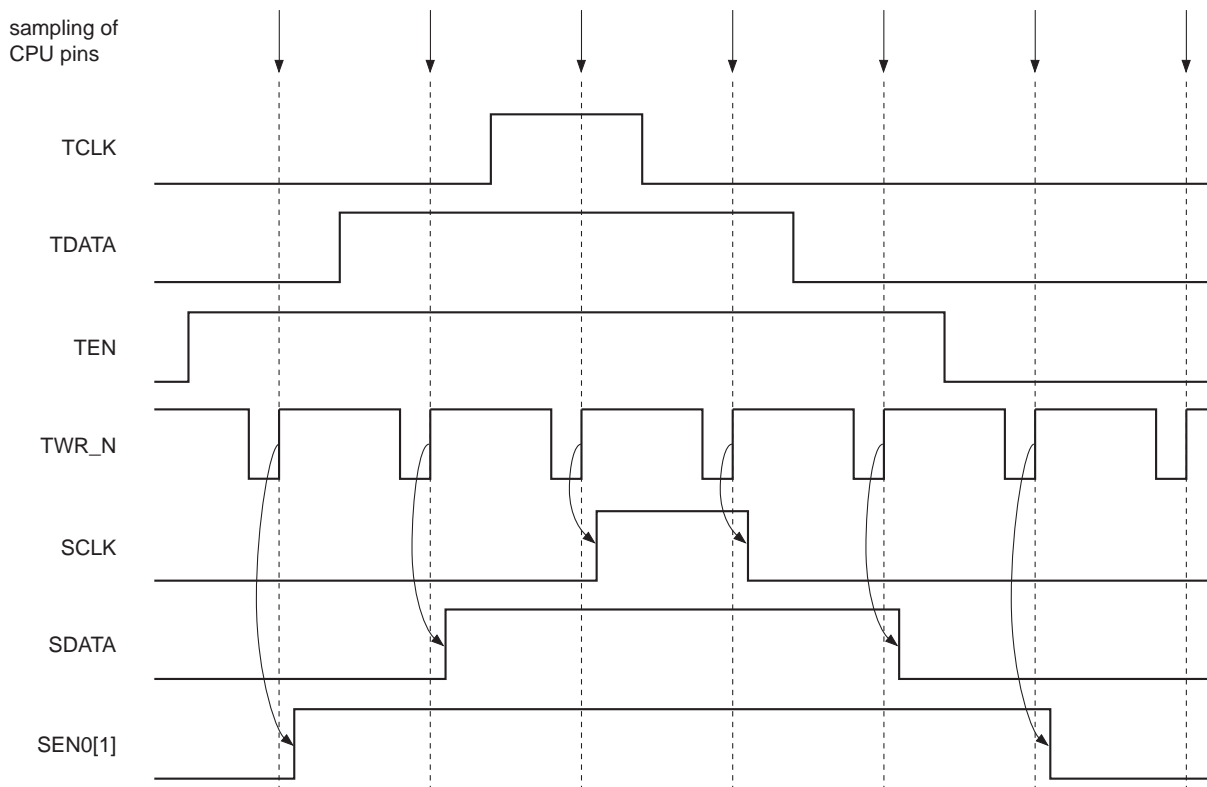

Fig. 6. 3-Wire Bus : Mode 0 Operation
- **Mode 0** : The host CPU drives the 3-wire bus pins via the CPU interface pins TCLK, TDATA and TEN. These pins are connected to the CPU data bus and a decoded active low strobe is connected to the TWR_N input pin. On each rising edge of TWR_N, the data on TCLK, TDATA, and TEN is registered by the CXD1958Q demodulator, and driven out on the SCLK, SDATA and SEN0 or SEN1 pins respectively. The I²C bus register bit SEL selects whether SEN0 or SEN1 is activated during this transfer. Thus the transfer rate on the 3-wire bus interface in this mode is determined by the rate of CPU accesses. The operation of this mode is shown in Fig. 6.